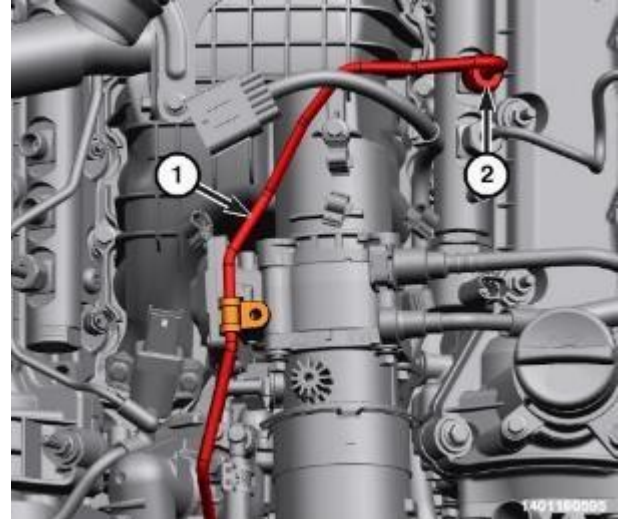

Figure 24 – Fuel Tube
46. Unscrew the union nut (2) and remove the fuel tube (1) and then discard the fuel tube (Figure 24).